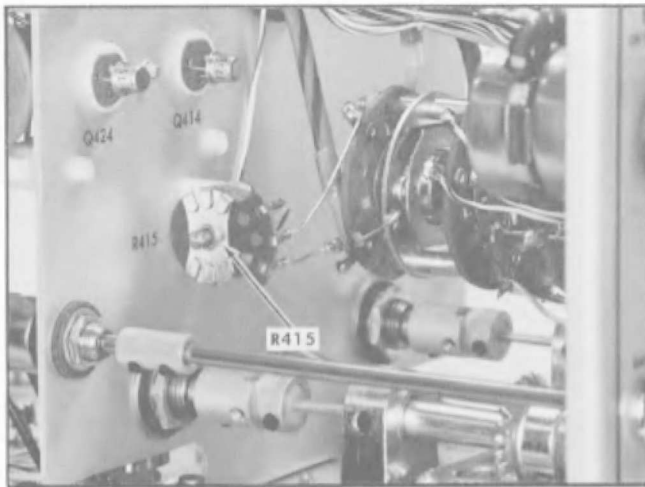

Fig. 7-4. Location of R415.
- d. Adjust—R415 for minimum trace shift as the TRIGGER SELECTOR switch is changed back and forth between CH 1 and CH 2. See Fig. 7-4 for location.